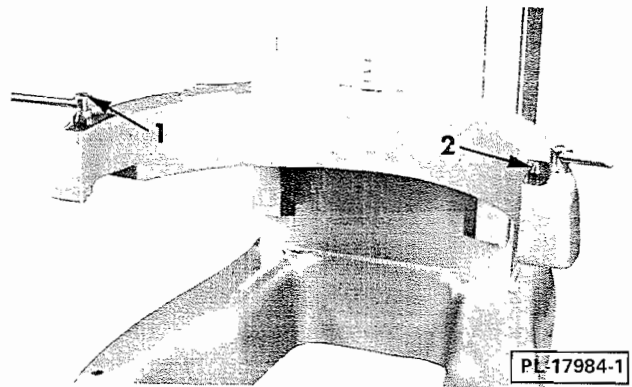

Fig. 6
**CAUTION:** Before lowering the bowl onto the bowl truck, always unlock both bowl clamps (1, Fig. 6).
Lower the bowl lift to its bottom stop. Select an agitator to be used and place it inside the bowl. Position the bowl so the square alignment bracket is to the back and the bowl locating studs (2, Fig. 6) on the bowl support fit into the alignment holes of the bowl. Raise the bowl yoke until the bowl is seated. Lock bowl in place by rotating the bowl clamps (1, Fig. 6) over the ears of the bowl.